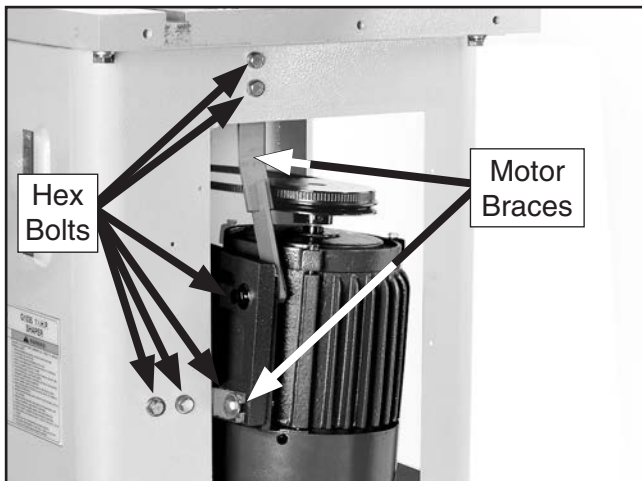

Figure 11. Motor braces and hex bolts.
2. Using a 12mm wrench, remove the six hex bolts, hex nuts and flat washers and the two motor braces shown in **Figure 11**.